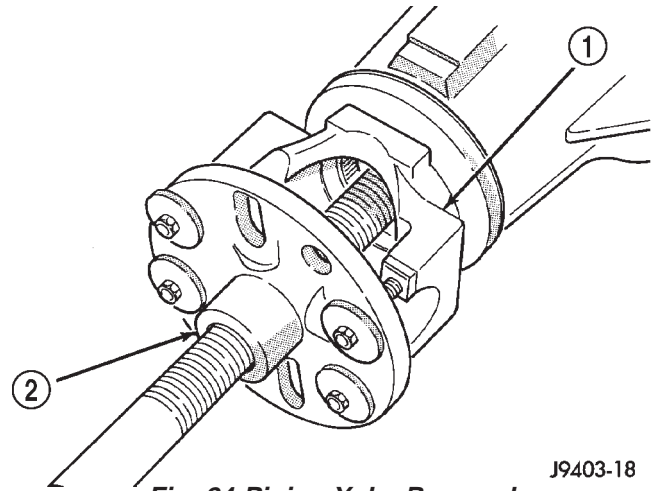
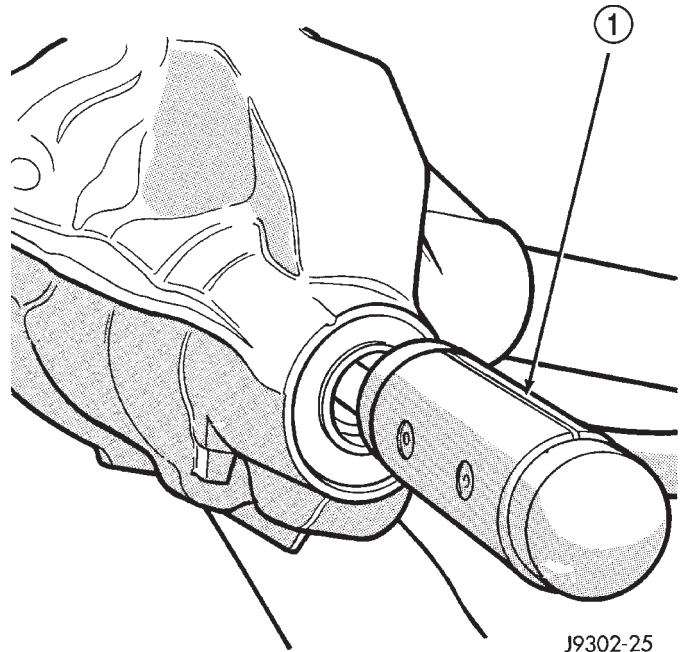
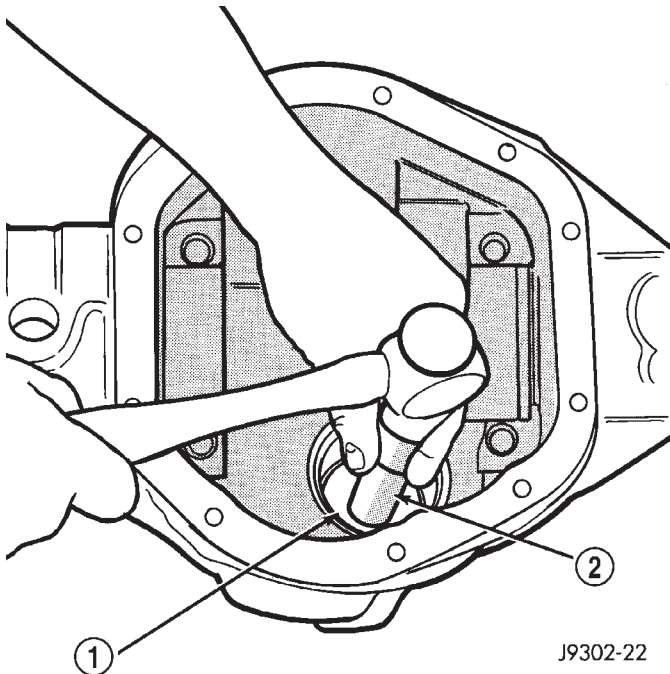

Fig. 24 Pinion Yoke Removal
Fig. 25 Remove Pinion Gear
Fig. 26 Front Bearing Cup Removal
- (1) Remove differential from the axle housing.
- (2) Mark pinion yoke and propeller shaft for installation alignment.
- (3) Disconnect propeller shaft from pinion yoke. Using suitable wire, tie propeller shaft to underbody.
- (4) Using Yoke Holder 6719 to hold yoke and remove the pinion yoke nut and washer.
- (5) Using Remover C-452, remove the pinion yoke from pinion shaft (Fig. 24).
- (6) Partially install pinion nut onto pinion to protect the threads.
- (7) Remove the pinion from housing (Fig. 25). Catch the pinion with your hand to prevent it from falling and being damaged.
- (8) Remove the pinion shaft seal with suitable pry tool or slide-hammer mounted screw.
- (9) Remove oil slinger, if equipped, and front pinion bearing.
- (10) Remove the front pinion bearing cup with Remover C-4345 and Handle C-4171 (Fig. 26).